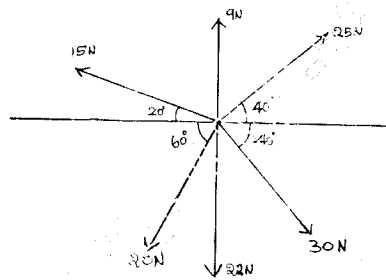

Fig. Q4 (b)
b. Determine the magnitude and direction of resultant for concurrent force system shown in Fig. Q4 (b). (10 Marks)